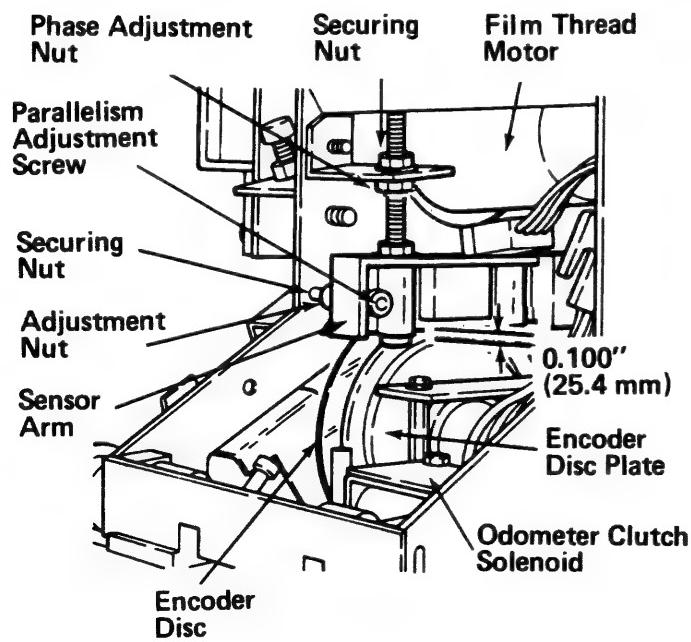
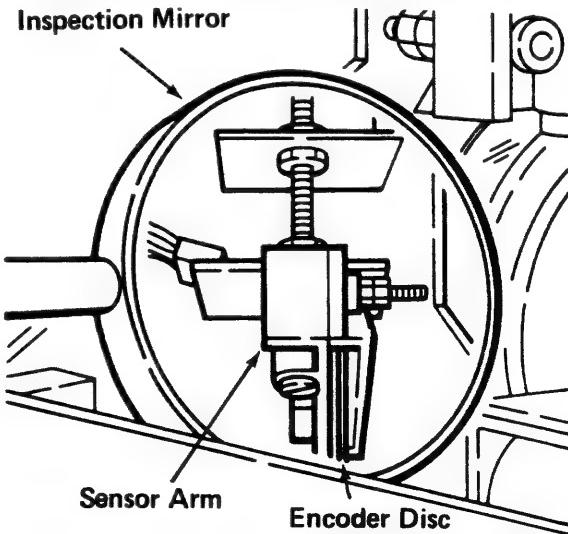

Figure 3-4A
Figure 3-4B
- Push the Plunger of the Odometer Clutch Solenoid (Y4) to the rear and while turning the Traverse Pulley of the Film Thread Motor (M3), check that the gears mesh smoothly and that the Encoder Disc does not wobble (Figure 3-4A)
- Loosen the Securing Nut for the Phase Adjustment Screw (Figure 3-4A).
- Loosen the Securing Nut for the Parallelism Adjustment Screw and, while holding the Adjustment Nut, turn the Parallelism Adjustment Screw (Figure 3-4A) so that the Encoder Disc is parallel with the Odometer Sensor Slot and as close to the rear as possible without touching (Figure 3-4B).
21. While holding the Securing Nut, turn the Phase Adjustment Nut (Figure 3-4A) for a 90° phase relationship (Figure 3-4F).